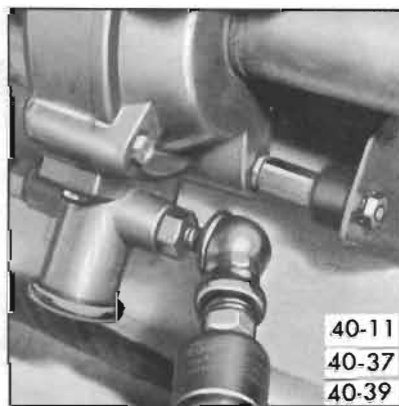

Figure 40-39—Filling System Through Service Valve
2. Inflate system through service valve to maximum available pressure. See Figure 40-39.